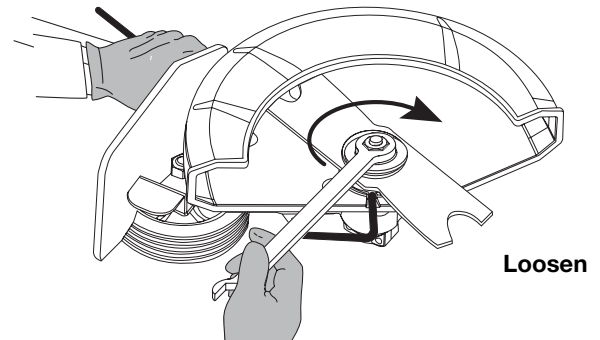

Fig. 9
3. While holding the locking rod, loosen the nut on the blade by turning it clockwise with a 13 mm wrench (Fig. 9). Remove the nut, retaining washer and blade. Keep the nut and blade retainer for installation.